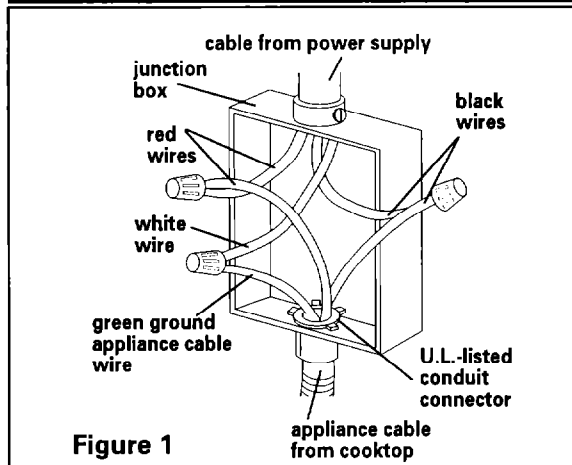

Figure 1
7. Connect the green appliance cable wire to the neutral (white) wire in junction box with twist-on connector. See Figure 1.